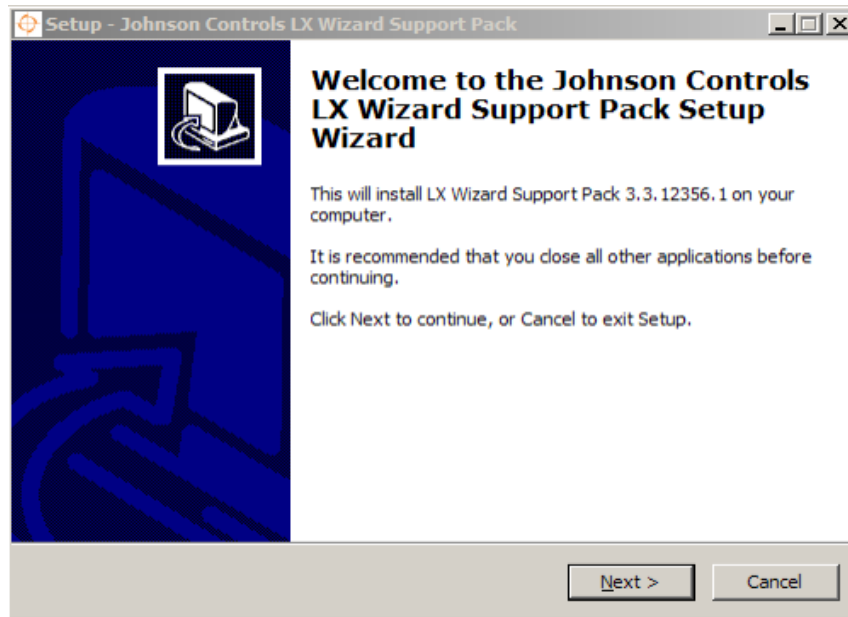

Figure 1: Starting the LX Controllers Support Pack Installation
2. Run the support pack executable file (.exe). The LX Wizard Support Pack Setup window appears (Figure 1).